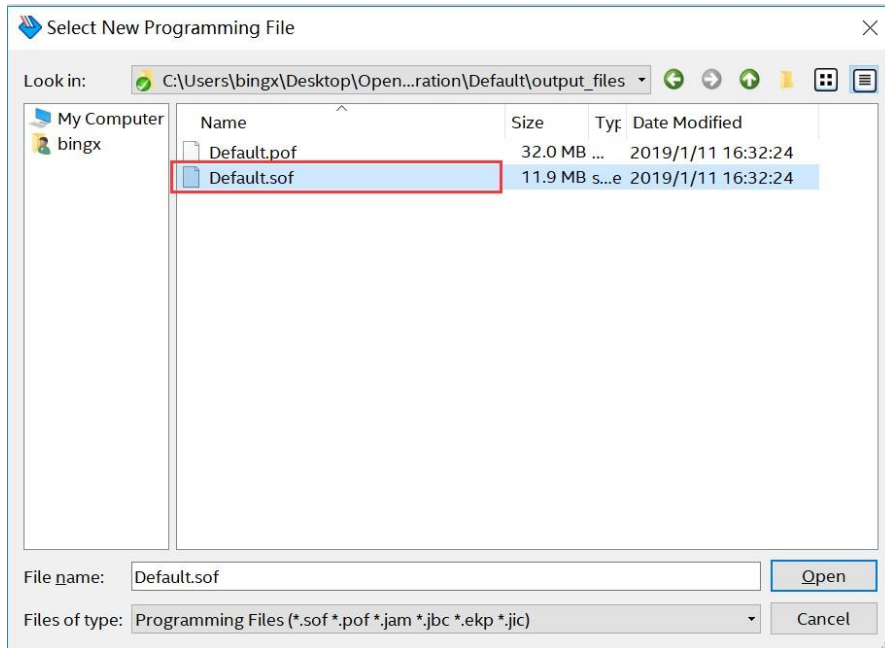

Figure 3-6 Select the .sof file to be programmed into the FPGA device
- Select the .sof file to be programmed, as shown in **Figure 3-6**.